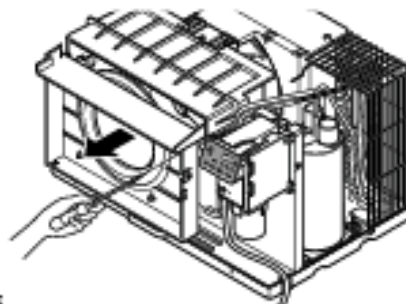

Figure 5
5. Remove the orifice. (See Fig. 5)